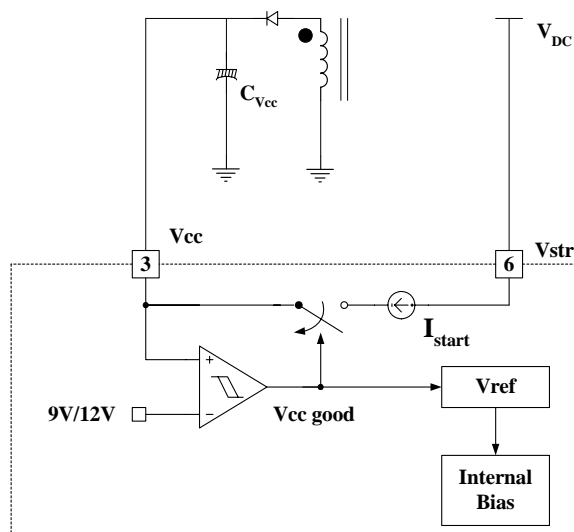

Figure 4. Internal Startup Circuit
**1. Startup :** In previous generations of Fairchild Power Switches (FPS™) the Vcc pin had an external start-up resistor to the DC input voltage line. In this generation the startup resistor is replaced by an internal high voltage current source. At startup, an internal high voltage current source supplies the internal bias and charges the external capacitor ( $C_{Vcc}$ ) that is connected to the Vcc pin as illustrated in figure 4. When Vcc reaches 12V, the FPS begins switching and the internal high voltage current source is disabled. Then, the FPS continues its normal switching operation and the power is supplied from the auxiliary transformer winding unless Vcc goes below the stop voltage of 9V.